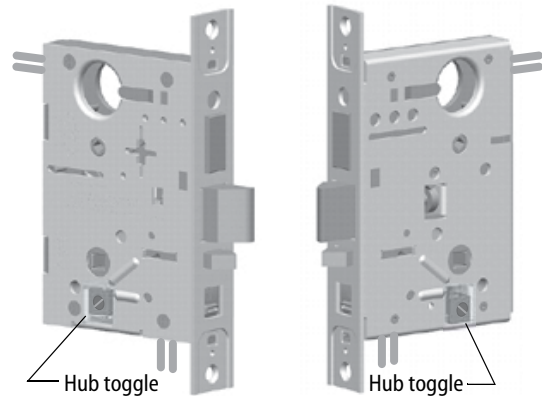

Figure 5 Positioning hub toggles
- 1 Check whether the hub toggles are in the proper position for the lock. See the table below and Figure 5.